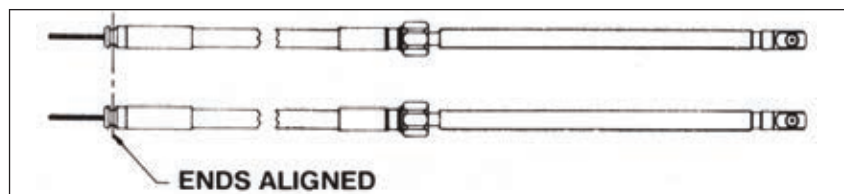

Figure 3.
STEP 1. Push both output rams of the cables to the fully retracted position. Make sure that they stay fully retracted during installation into the helm. Remove the protective sleeves from the Steering Cables. Make sure that dirt does not get onto the lubricated cable ends. Hold both cables together at the helm end with the faces of the conduit fittings flush, as shown in Figure 3.